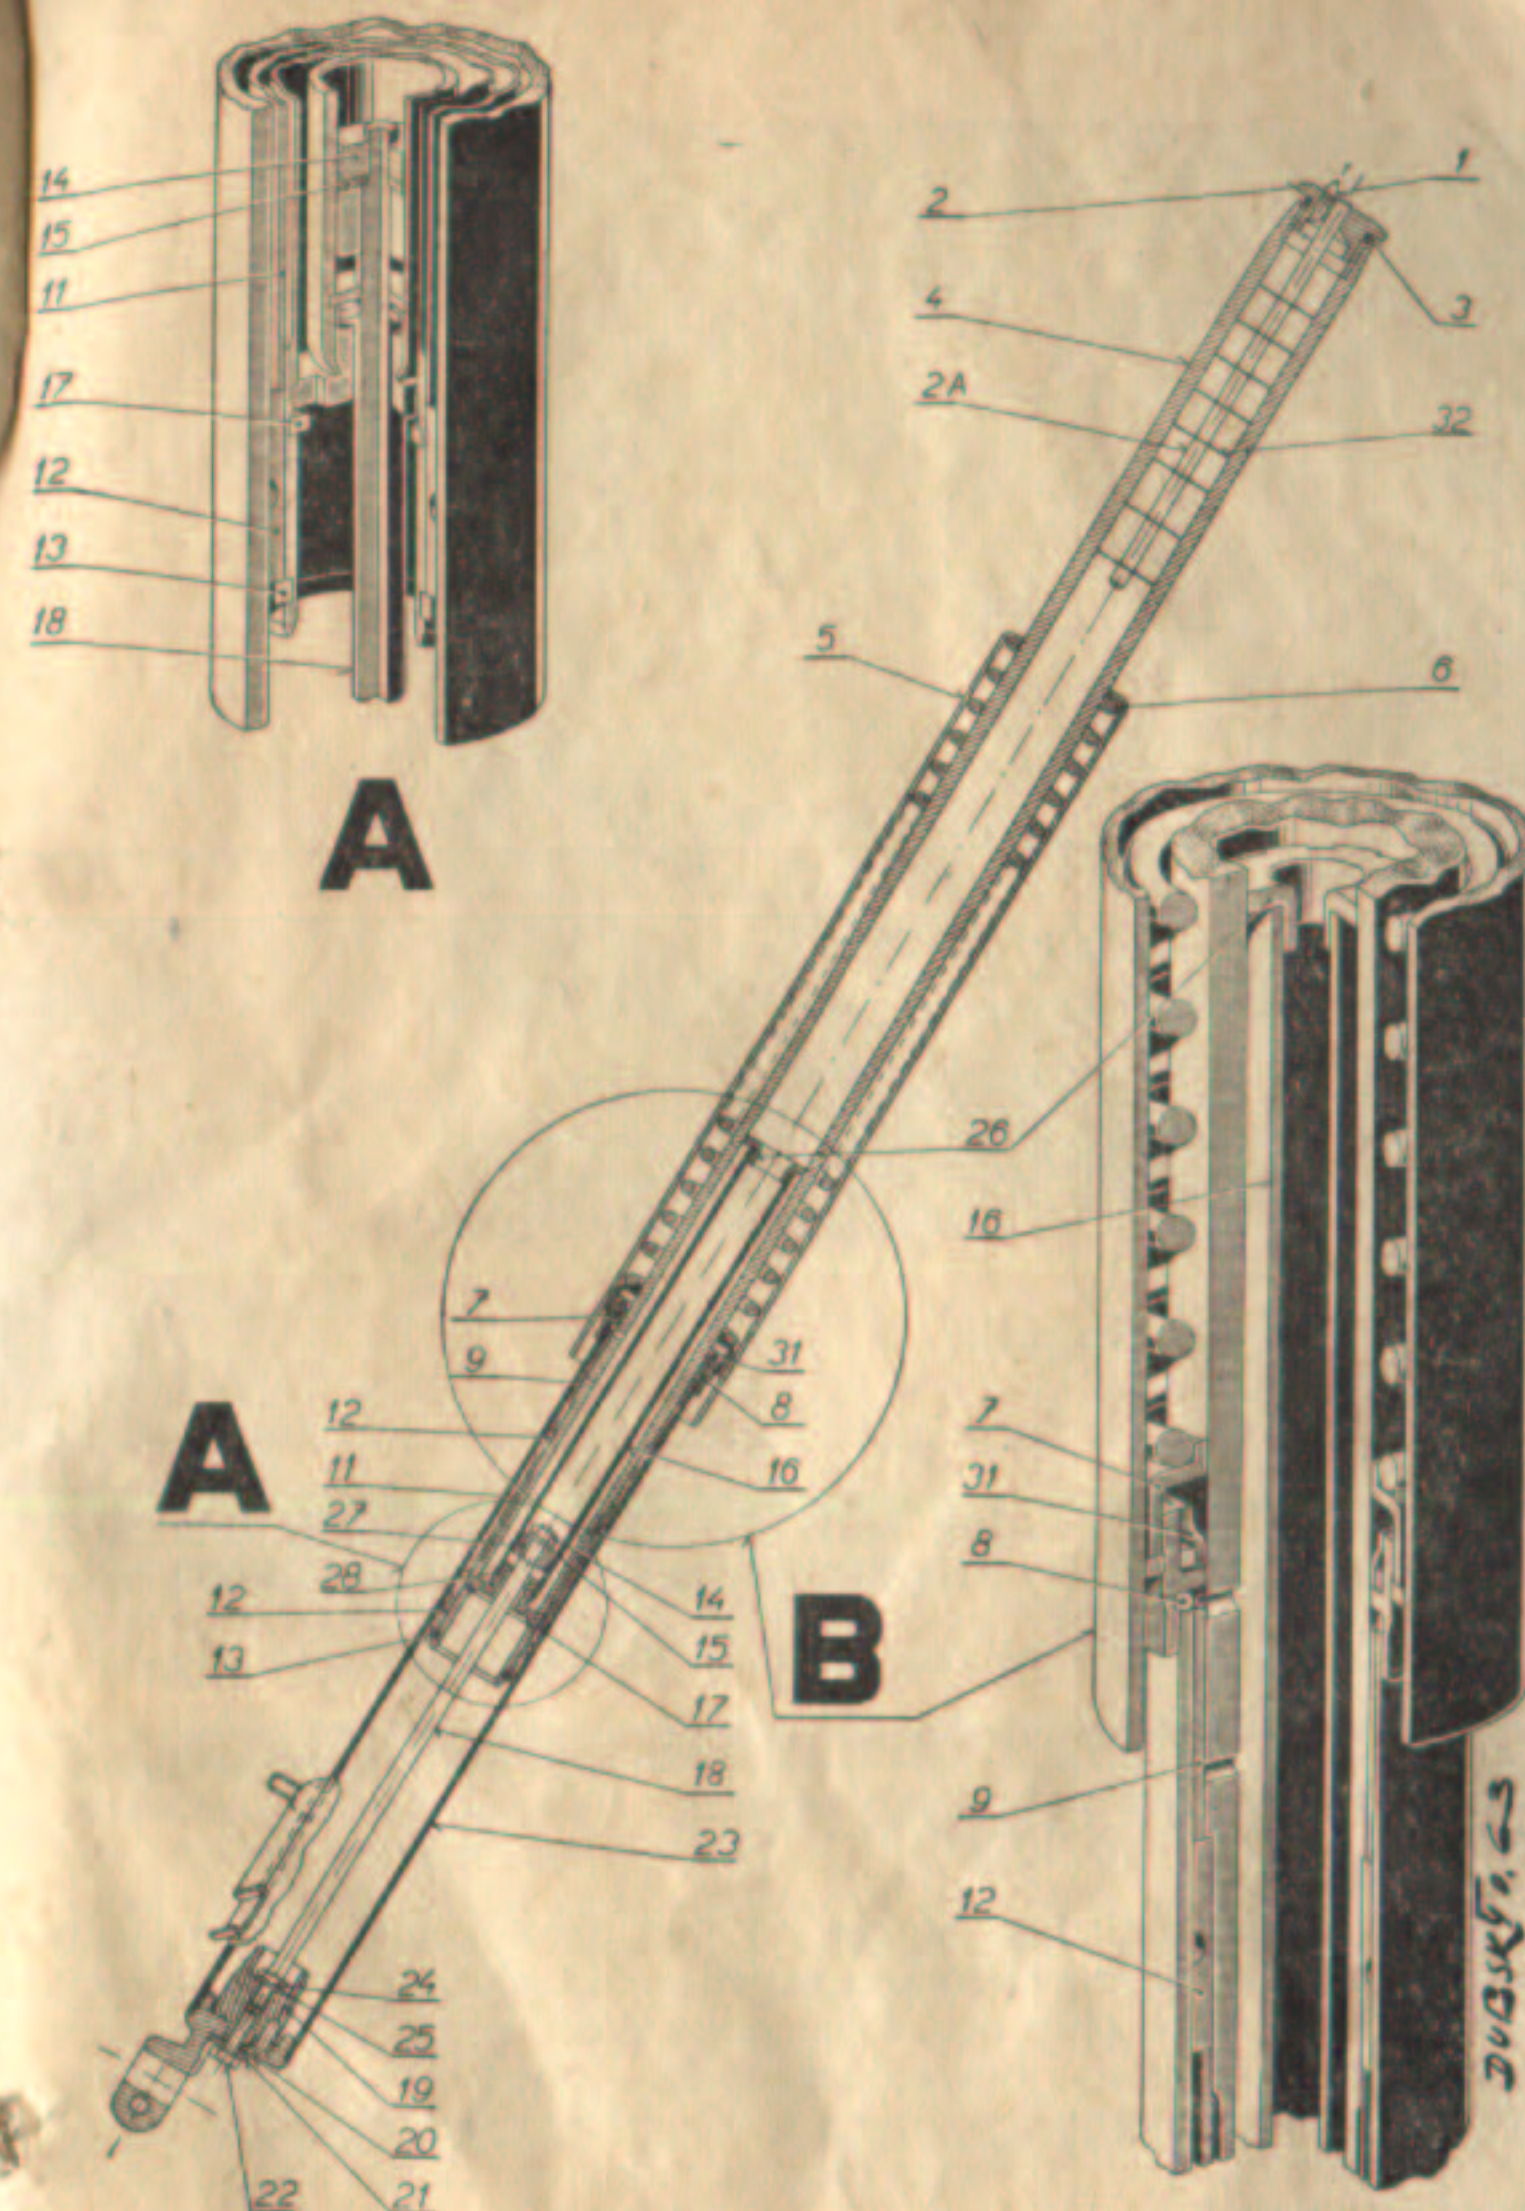

Fig. 15 - Front fork - sectional view
**The telescopic front fork dampers** (Fig. 15): After the first 600 to 900 miles (1,000—1,500 km) change the damper oil from both front fork legs. Change in the following manner: Remove the front wheel, unscrew the screw (22) on the bottom portion of the fork by about 7 mm, press it into the slider by means of the screw (22), rotate the end piece (19) through approx 90° and let the oil drain out. Now close the slider in the following manner: using the screw (22) turn the end piece (19) into its original position, i. e. **until the end piece (19) pin engages in the hole**. Tighten the screw (22).